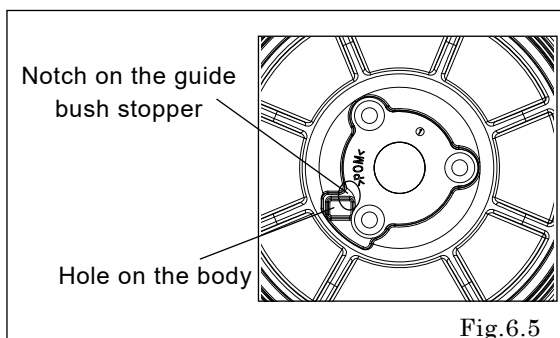

Fig. 6.5
- When installing the guide bush stopper, please place its notch to the hole on the body side. [Fig.6.5]